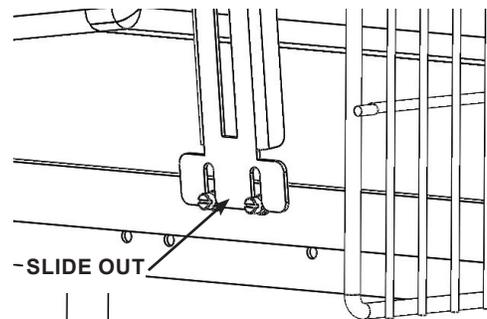

FIGURE 2.9 - Remove Latch Bottom
STEP 4: Lift the latch bar upward to clear the latch pins located at the bottom. The bottom of the latch bar has open end slots at the end of the bar to easily slide out from behind the latch lower pins. See FIGURE 2.9